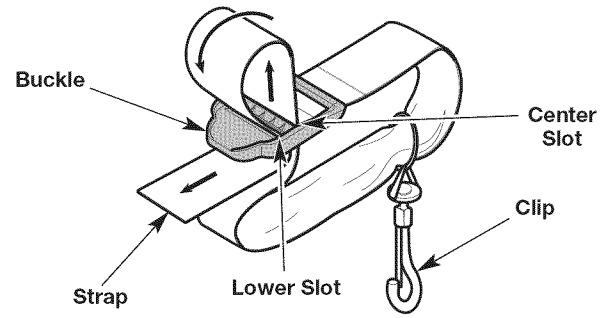

Fig. 11
1. Push the strap up through the center slot in the buckle (Fig. 11).
2. Bend the strap over and push it down through the lower slot in the buckle (Fig. 11).